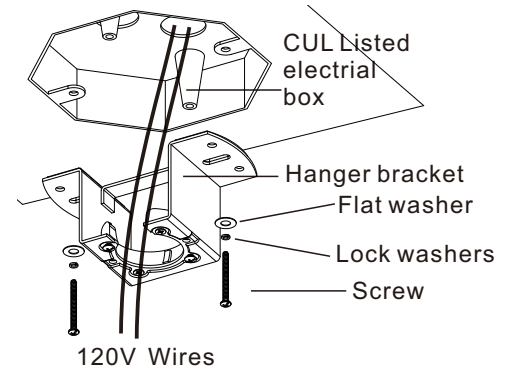

Figure 8
Step 1. Pass the 120-volt supply wires through the center in the ceiling hanger bracket as shown in (Fig. 8)